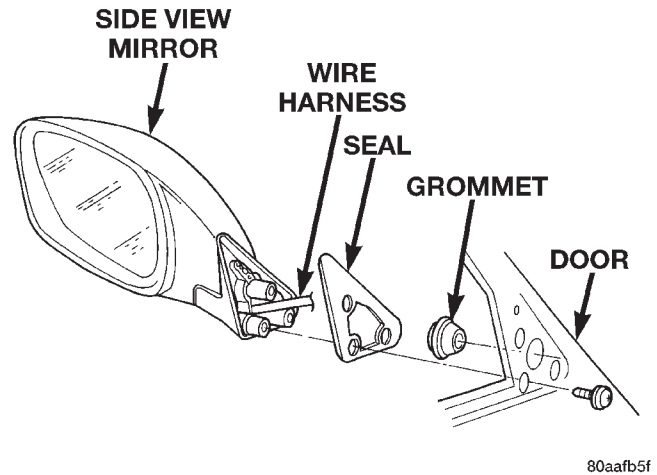

Fig. 11 Power Mirror Remove/Install
(11) Using a trim stick or another suitable wide flat-bladed tool, gently pry the door flag trim away from the inner door to release the trim panel retainer.
(12) Unplug the power mirror wire harness connector.
(13) Remove the three screws that secure the power mirror to the inner door panel (Fig. 11).
(14) Unseat the power mirror wire harness grommet by pushing it out through the hole in the door flag from the inside.
(15) Pull the mirror and seal from the outside of the door while feeding the wire harness, grommet, and connector out through the hole from the inside of the door.
(16) Reverse the removal procedures to install. Tighten the mirror mounting screws to 4.3 N·m (38 in. lbs.). Tighten the door trim mounting screws to 2.2 N·m (20 in. lbs.).